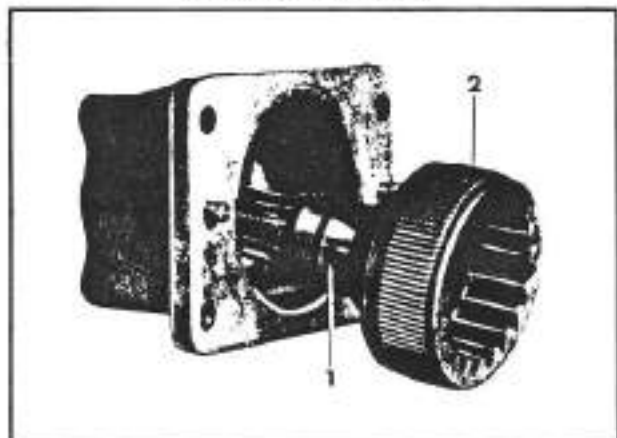

Fig. 3-49. Removal of the power take-off reduction gear drive shaft (tractor Mod. 76)
b. Extract the pinion shaft assembly (1; fig. 3-49).
Pay great attention to the extraction of the pinion shaft (1; fig. 3-49) from the box so that no needles are lost or damaged. The exact (2; fig. 3-49) number of needles is 108.